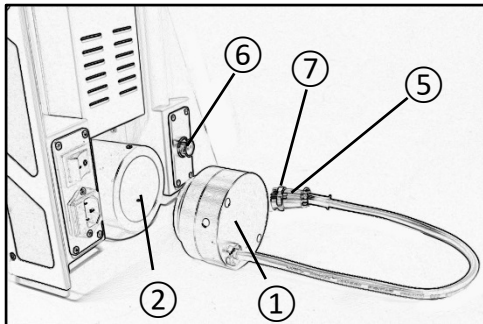

Fig. 1
Installing the LED Lamp Housing – Fig. 1 & 2
Align the LED lamp housing (1) with the lamp facing toward the back of the microscope as shown (Fig. 1).
Align the pins in the end of the lamp housing power cord plug (5) with the lamp housing power cord socket (6) on the back of the microscope and slide the plug until it clicks into place (Fig 1).